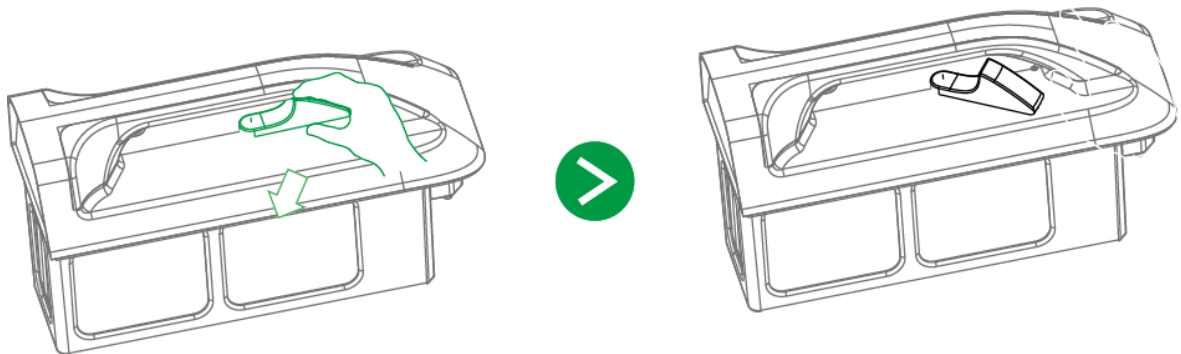

Figure 5-4
Step 1 Open the battery buckle of the aircraft, as shown in Figure 5-4.